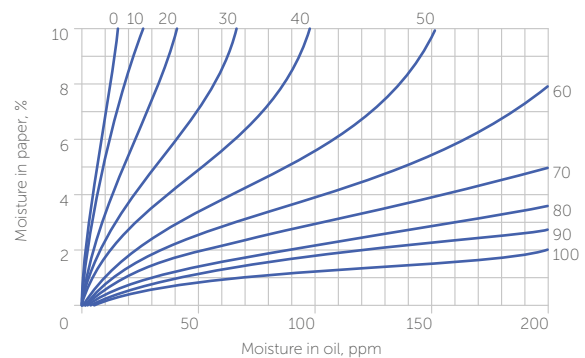

Figure 4. Moisture Equilibrium curves* (Oomen)
3. If PPM and oil temperature are known some curves exist (see Oomen curves figure 4) to link the water PPM in oil and the water content in the paper. But these curves are only really valid at equilibrium which is in general never reached on a running transformer.